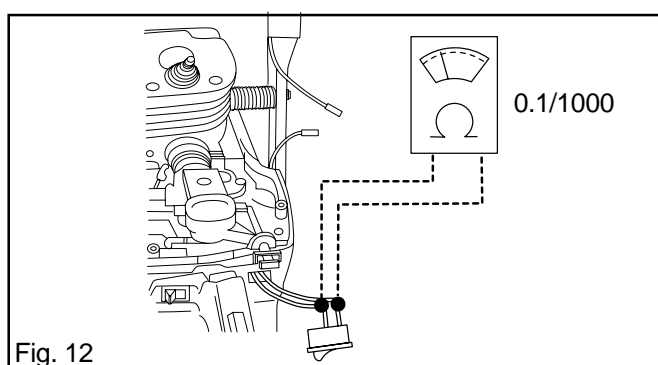

Fig. 12
7. Disconnect one of the connections to the on/off switch and connect the ohmmeter as shown in fig. 12. The meter should read more than 1000 with the switch in the "0" position. The meter should read at most 0.1 when the switch is in the "1" position.